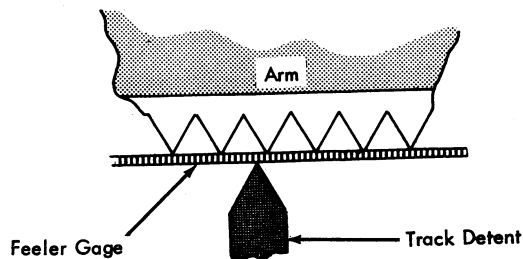

Figure 3-10. Track Detent Adjustment
Adjustment (Figure 3-10)
6. Place a .005" feeler gage between arm teeth and any detent (Figure 3-10). Apply air. The normally closed contact should be open. If it is not open, Steps 3 and 4 were incorrectly performed or the switch is not within specifications. If the latter is the case, replace the switch.